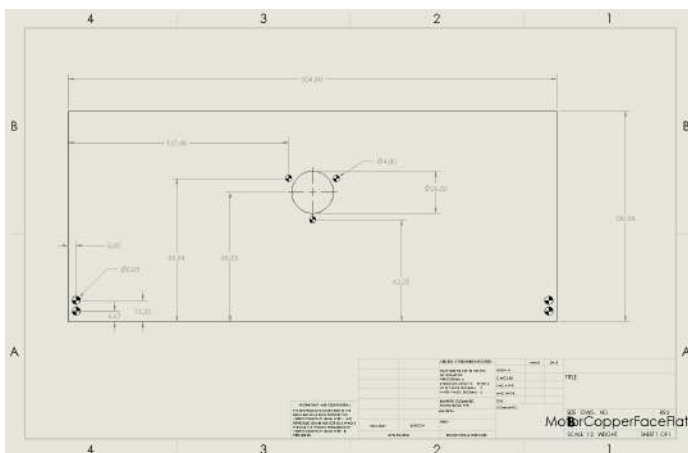

Figure 2: Copper face drawing
2. Drill a pilot hole in the cut copper sheet at 152.4mm in the x-dimension, and 88.84mm in the y-direction as illustrated in figure 2.
4. Drill three 3mm holes 120 degrees apart around the previously drilled 1" hole as illustrated in figure 2.
5. Drill four 5mm holes at the locations illustrated in figure 2.